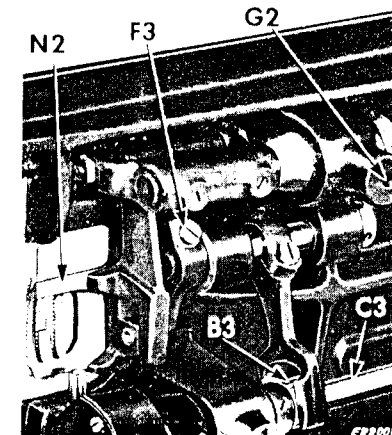

Fig. 86. Adjusting Height of Feed Dog
To adjust the height of the feed dog **N2**, **Fig. 86**, loosen clamping screw **F3**, **Fig. 86** and raise or lower the feed dog **N2**, as required. Then securely tighten clamping screw **F3**.
**NOTE:** The feed lifting eccentric **B3**, **Fig. 86** is not adjustable, as it is positively timed by location on a flat on the rotating hook driving shaft **C3**.
To adjust the **sidewise position** of the feed dog, loosen the small set screw **G2**, Fig. 86, page 31, and move the feed dog toward the left or right, as required. Then securely tighten the set screw **G2**.